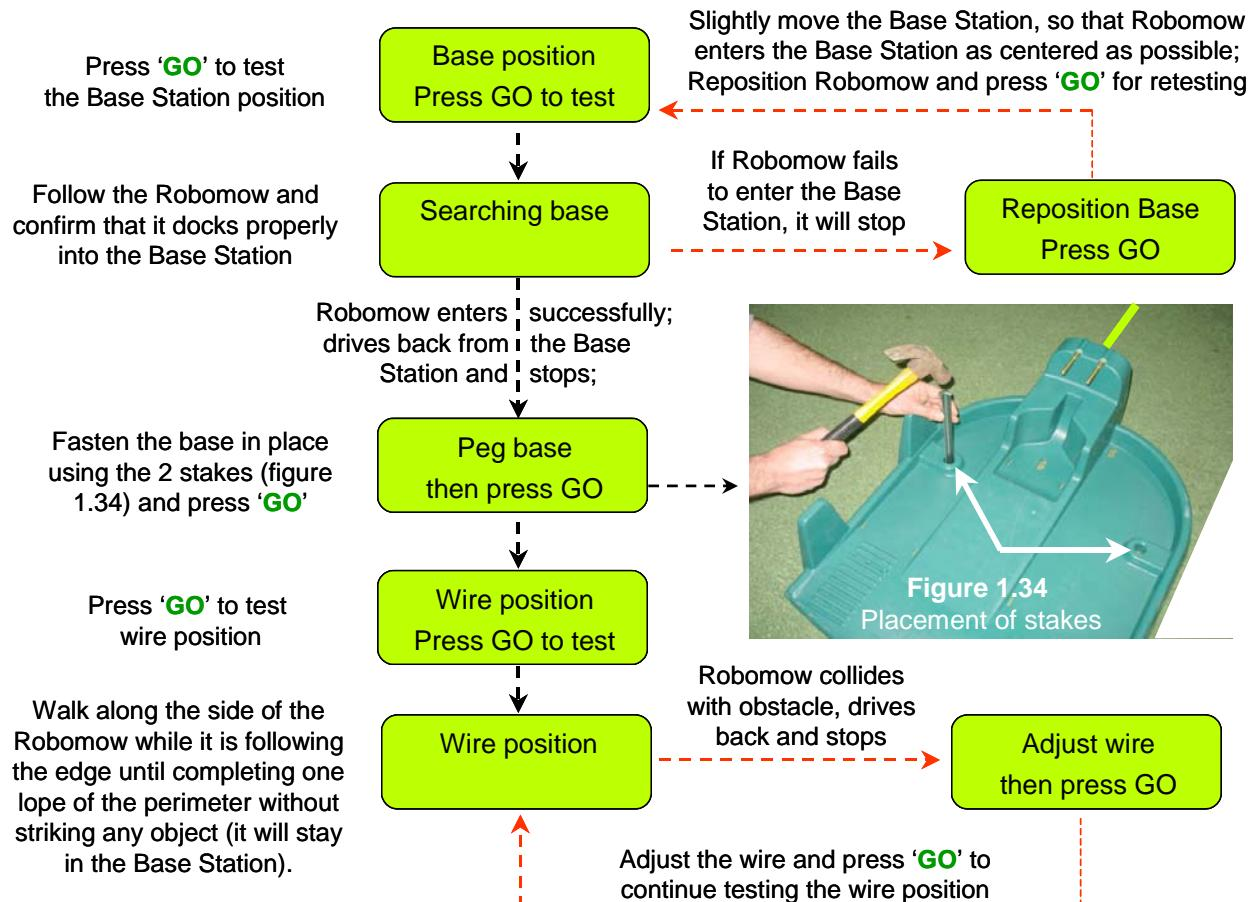

Figure 1.35
- Follow the instructions, as shown in figure 1.35 to complete the test of the Base Station position: